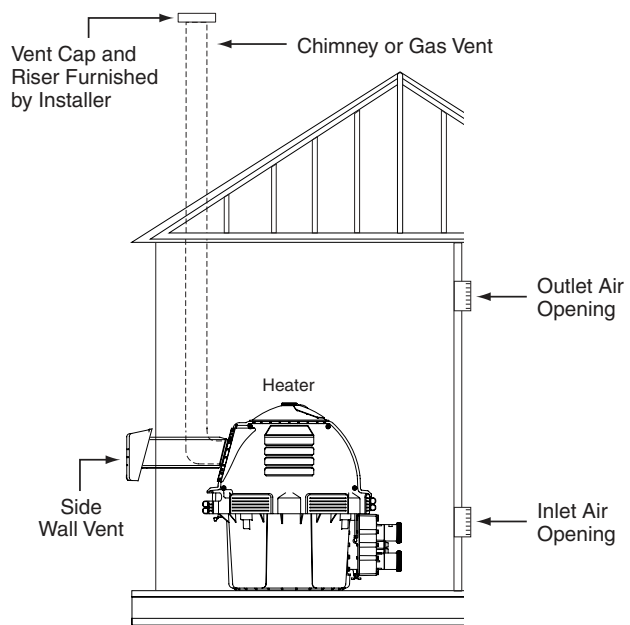

Figure 16.
HORIZONTAL OR VERTICAL VENTING - POSITIVE PRESSURE (See Figures 16, 17, and 18)**(Category III)**
6. **Vent Termination – Vertical** (See Figures 16 and 17), for height of vent termination above the roof. Use an "Approved" vent terminal specified by local and national codes and your manufacturer's instructions. A roof termination must be vertical. In Canada, the Vent Cap location shall have a minimum clearance of 4 feet (1.2M) horizontally from electric meters, gas meters, regulators, and relief openings.